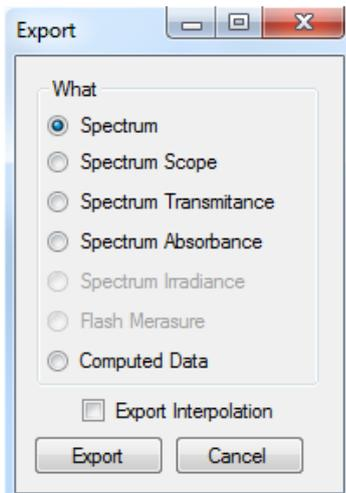

Fig. 33 Export table.
- Spectrum** (Fig. 33) – all raw scope data for entire range of measured wavelengths are exported including data for the dark scan.